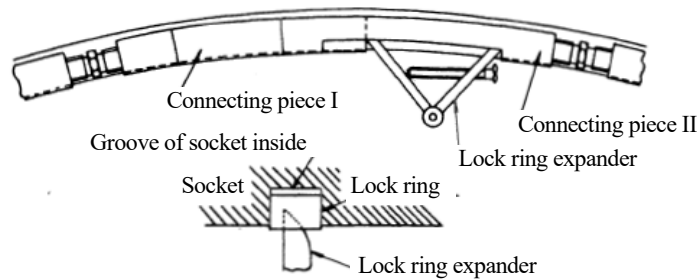

Figure 9 Expansion of lock ring with expander
2) Attach the expander between the connecting piece I and II then expand the lock ring so that whole lock ring is stored in the groove all around the socket (see Figure 9).